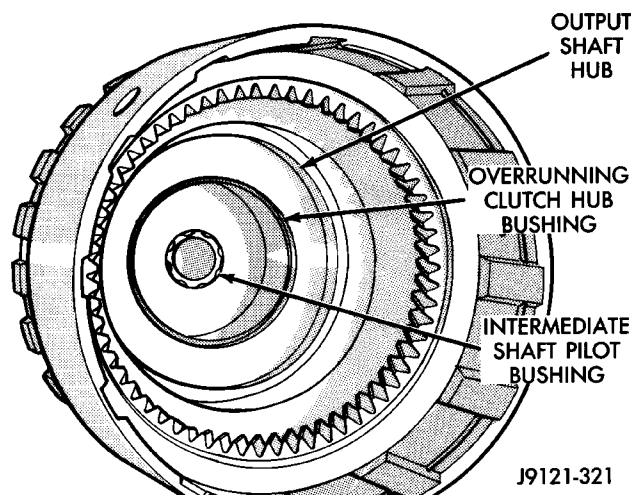

Fig. 221 Output Shaft Pilot Bushing
(1) Soak direct clutch and overdrive clutch discs in Mopar® ATF Plus 3, type 7176, transmission fluid. Allow discs to soak for 10-20 minutes.
(2) Install new pilot bushing and clutch hub bushing in output shaft if necessary (Fig. 221). Lubricate bushings with petroleum jelly, or transmission fluid.